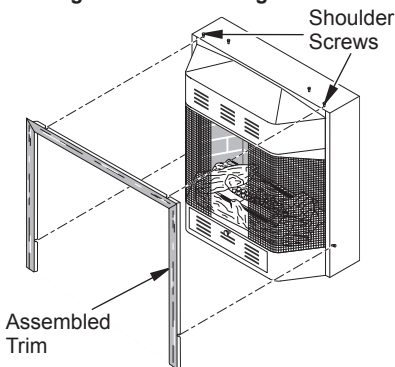

Figure 14 - Attaching Trim to Fireplace
4. Place trim on the shoulder screws located on the side and top of the fireplace. Firmly snap the trim over the shoulder screws on fireplace (see Figure 14).